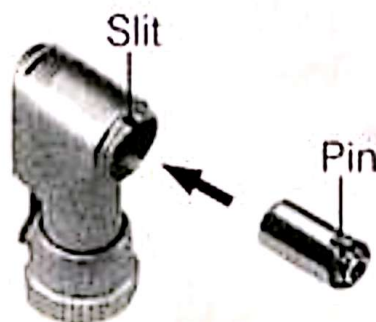

Fig. 5
- ④ Swing open the latch plate. Insert a bur blank or round rod into a hole from the head end, and push out the cartridge.
- ⑤ Insert the new cartridge, with its pin aligned in the slot of the head. (Fig. 5)